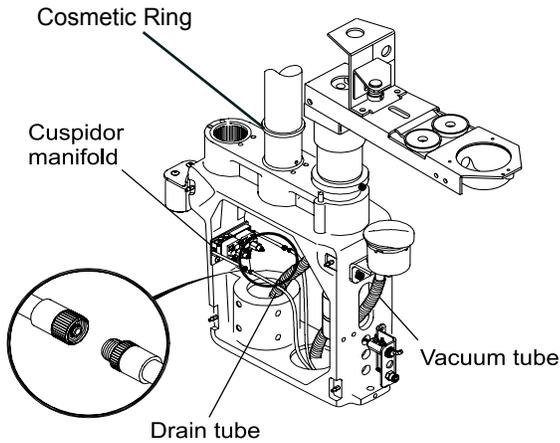

Figure 2 (Internal Umbilical)
- b. Connect the 1/4" blue and yellow tubing to the corresponding tubing coming from the cuspidor manifold (see figure 2).